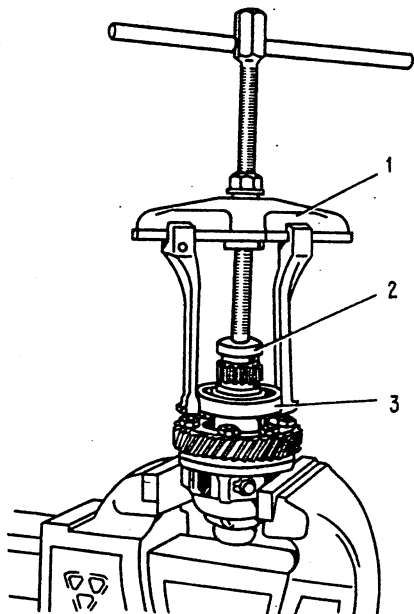

Fig. 3-39. Removing the Bearing from Differential Housing:
- remove the front and rear bearings from the differential housing (Fig. 3-39) with a general-purpose remover tool and stop 67.7853-9559;